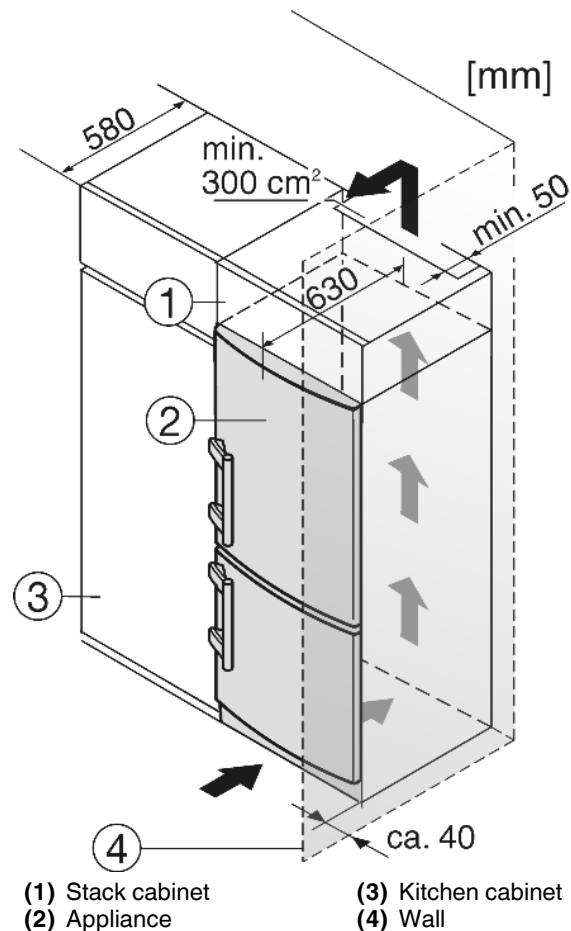

Fig. 26
- (1) Stack cabinet
- (2) Appliance
- (3) Kitchen cabinet
- (4) Wall
The appliance can be inserted into a row of kitchen units. To match the appliance Fig. 26 (2) to the height of the row of units, a suitable stack cabinet Fig. 26 (1) can be fitted above the appliance.
When inserting the appliance into a row of kitchen units (max. depth 580 mm), the appliance can be installed directly next to the kitchen unit Fig. 26 (3). The appliance door projects relative to the front of the kitchen unit by 34 mm at the side and by 50 mm in the middle of the appliance. It can be opened and closed perfectly as a result.
If the appliance is installed with the hinges next to a wall Fig. 26 (4), the distance between appliance and wall has to be at least 40 mm. This corresponds to the projection of the handle when the door is open.